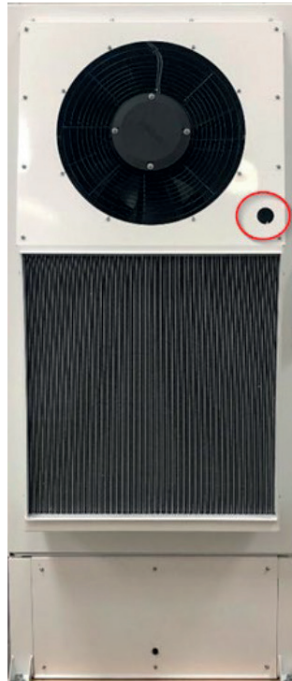

Figure 154. C-Cab XXL Coolant Schrader Valve Location
2. Remove the cover on the Schrader connection of the cooler, see Figure 154: